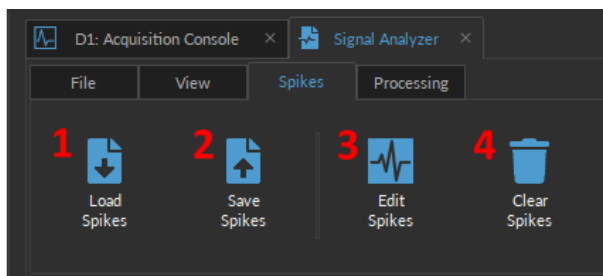

Figure 11.10: Spikes Tab
The **Spikes** tab (Fig. 11.10) is used to save, load, and edit data files containing process data within the module.
1. The **Load Spikes** button (Fig. 11.10, 1) will open a file selector window where the user can pick which `_Spikes#.doric` data set to import into the module.
2. The **Save Spikes** button (Fig. 11.10, 2) will automatically output a new file containing the processed data in the same folder as the raw data. This new file will share the name of the raw data file, plus a `_Spikes` between the old name and the `.doric`. If a spike file of that name already exists, an additional Spikes file is generated as `_Spikes#.doric`, instead of overriding the data.
3. The **Edit Spikes** button (Fig. 11.10, 3) allows users to update the spikes information in the current `_Spikes.doric` file without generating a new Spikes file. Instead, the new and old processed data are combined into a folder of the same name.
4. The **Clear Spikes** button (Fig. 11.10, 4) will erase the Spike file currently loaded in the module.